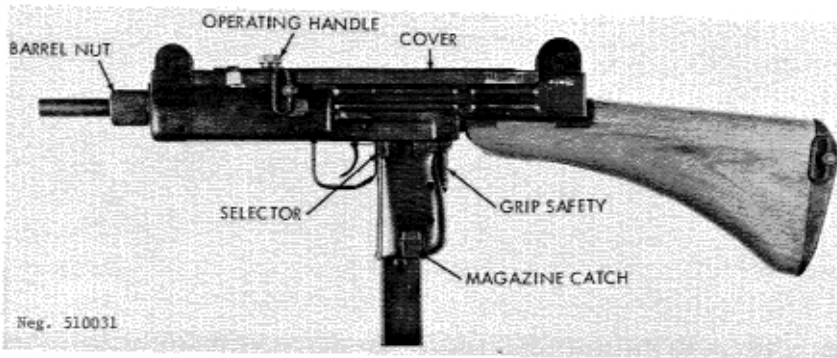
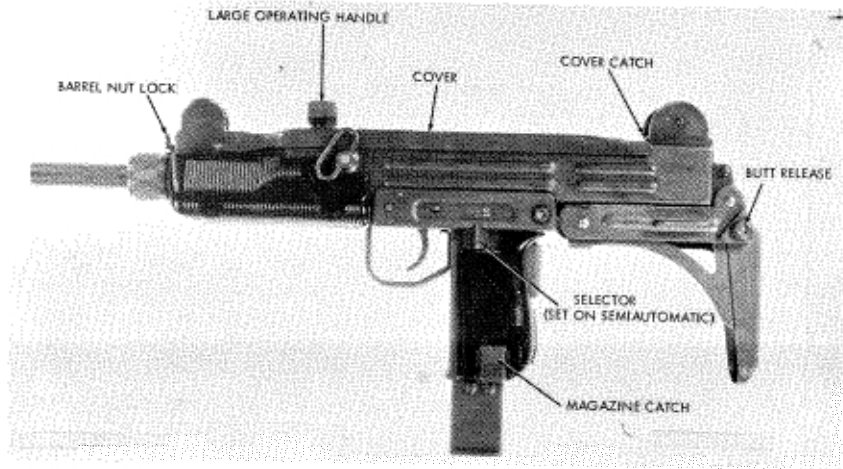
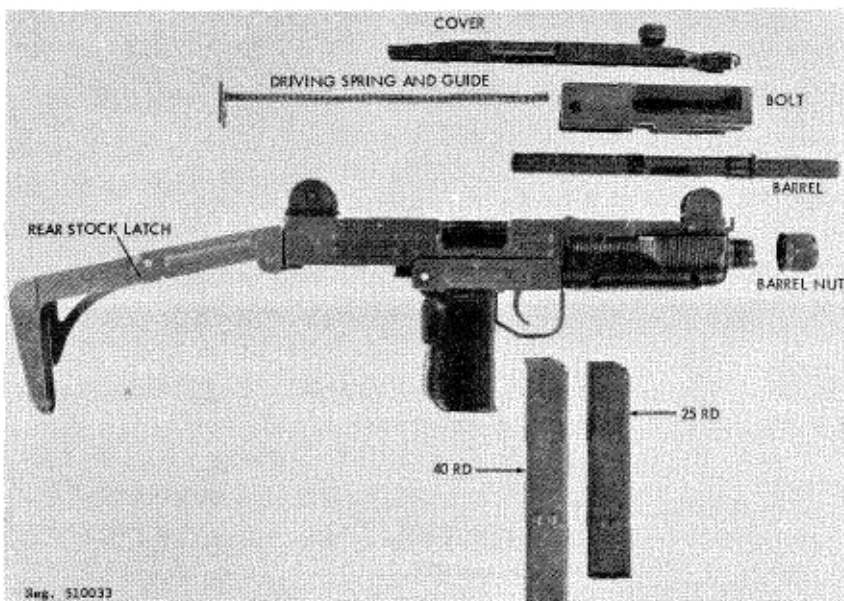

Figure 32. Israeli UZI submachinegun, early model.
Figure 33. UZI submachinegun, late model with folding butt.
Figure 34. UZI submachinegun, field stripped.
a. The 9-mm UZI submachinegun (fig 32 and 33) was designed by an Israeli Army officer in the early 1950's. The design appears to have been influenced by the Czechoslovak M-23 submachinegun. However, the UZI has several novel features for a submachinegun, including a bayonet and a spigot-type grenade launcher. The UZI is a simple gun to manufacture, using a maximum amount of stamped metal parts, and is considered to be an extremely reliable weapon.
c. Like most submachineguns, the UZI fires from an open bolt and can be fired either automatically or semiautomatically. It is fed by 25- or 40-round-capacity box magazines inserted into the pistol grip. Although the UZI is usually equipped with a folding metal butt (fig 33), a wood butt (fig 32), in at least two different lengths, is also used.
b. If the gun is a folding stock model, press the butt release (fig 33), pull down on the butt plate, and unfold the butt. To fold the butt, squeeze the rear half together, just to the rear of the joint, and fold the stock down and forward, insuring that it locks to the receiver.
c. Insert the magazine into the bottom of the butt until the magazine catch snaps into place. After pressing the grip safety (fig 32), pull the operating handle fully to the rear and release it. CAUTION: The UZI is now loaded and ready to fire. If the gun is not to be immediately fired, slide the selector (fig 32) fully rearward to the "safe" position.
e. Remove the magazine by pressing the magazine catch (fig 32 or 33) and pulling the magazine out of the gun.
b. Press in the cover catch (fig 33) and lift the cover (fig 33) from the receiver. Pull the bolt slightly rearward; then swing its front end up and out of the receiver. Separate the bolt and driving spring from the receiver and then from each other.
c. Press in the barrel nut lock (fig 33) and unscrew the barrel nut; pull the barrel (fig 34) forward and out of the receiver.
e. Insert the front of the cover (fig 34) under the front sight and press the rear end of the cover down until the cover snaps into place. Reinsert the magazine.